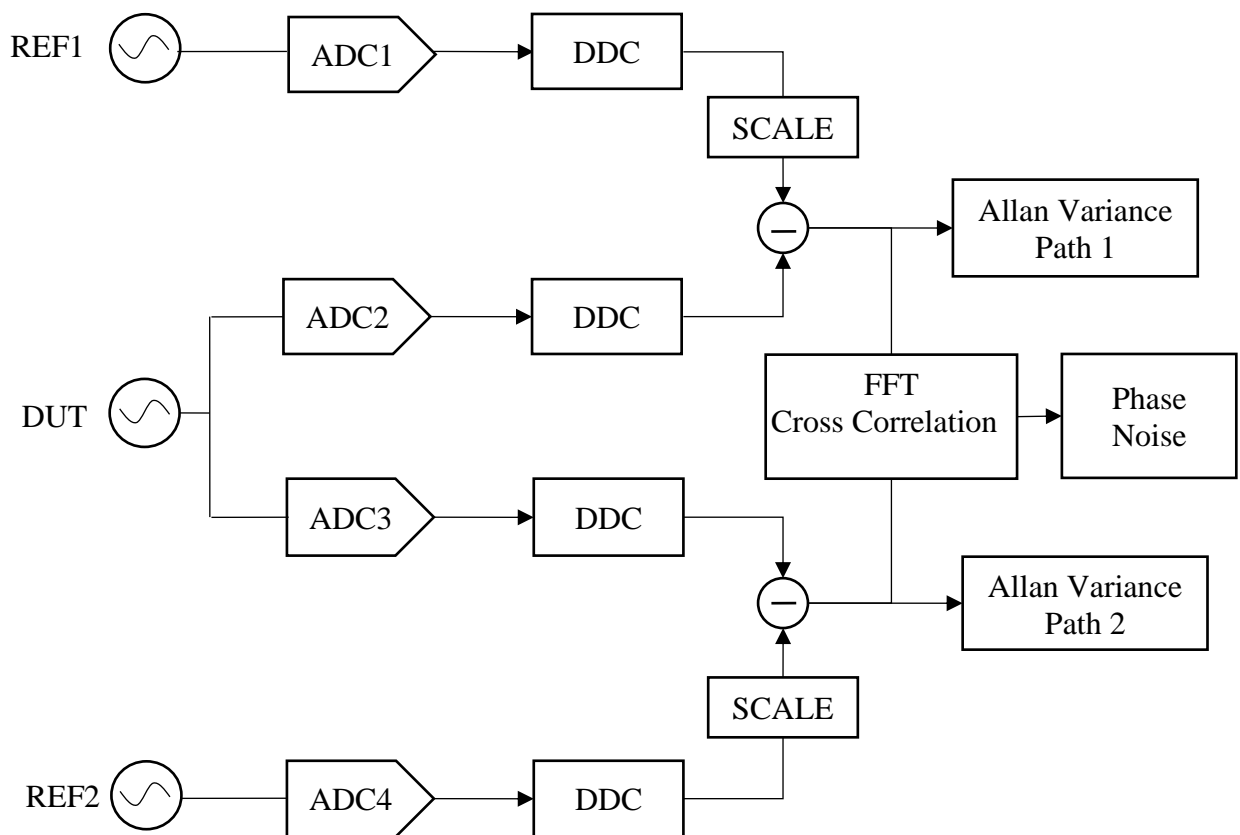
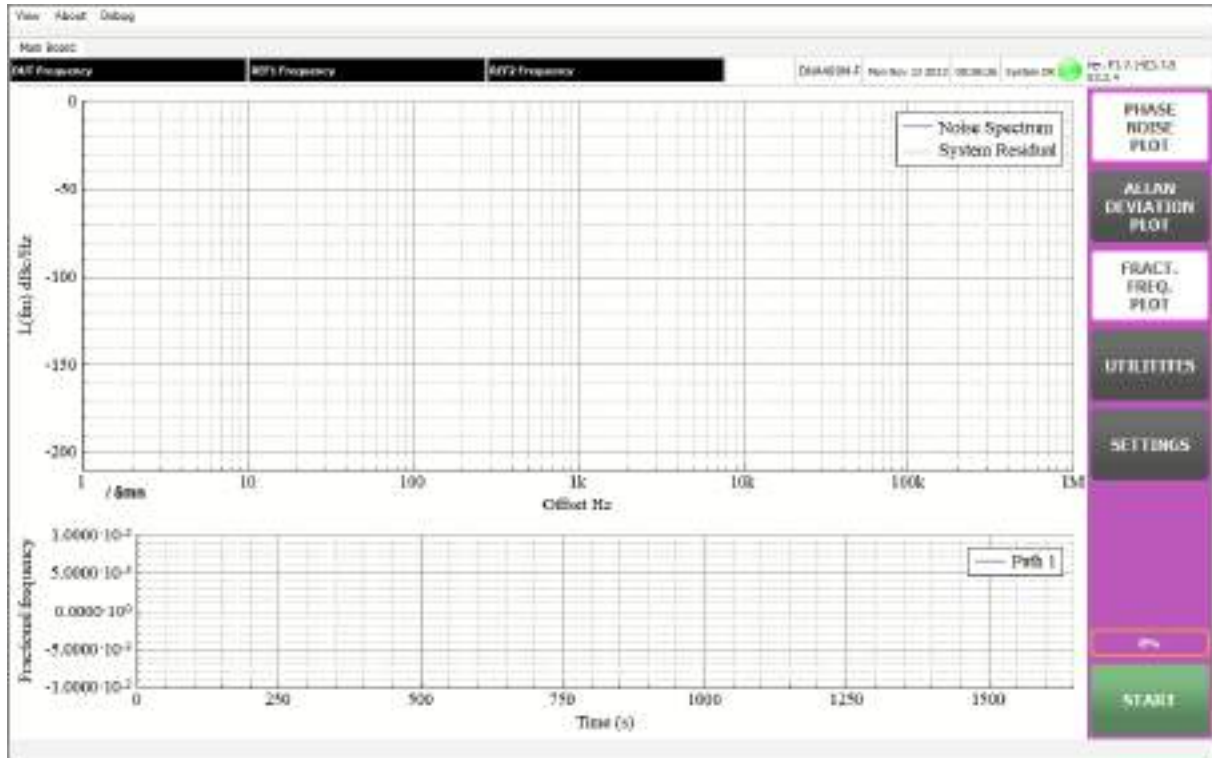

Figure 11 – Global Architecture.
Figure 15 – Fractional frequency noise display
The DNA's global measurement architecture is described in the Figure 11 – Global Architecture.. Basically, the DNA is based on a four-ADC architecture.
- ⑬ Fractional Frequency plot button. When this button is active, the fractional frequency noise (path 1 and path 2 shown in Figure 11) is displayed in real time while the measurement is ongoing. It is noted that this plot can be displayed at the same time with the phase noise plot or the frequency stability plot (Figure 15 – Fractional frequency noise display).